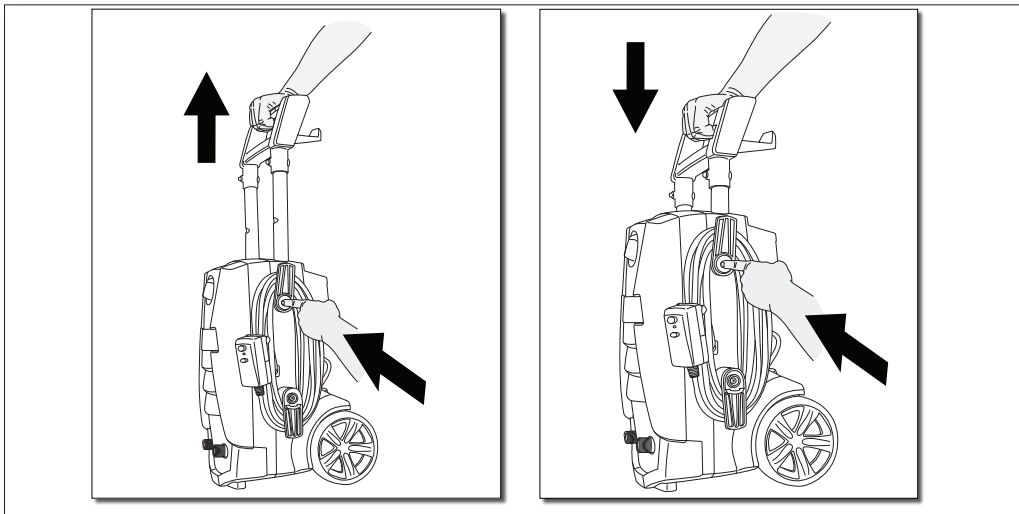

Fig. 4
- Extending and lowering the handle (**Fig. 4**):